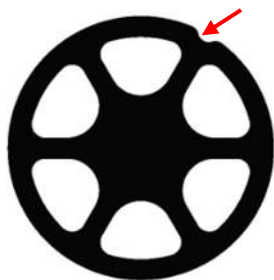

Fig. 6: Kalrez[®], standard valve
- DuPont™ Kalrez[®] has one groove in its outer contour (see Fig. 6)